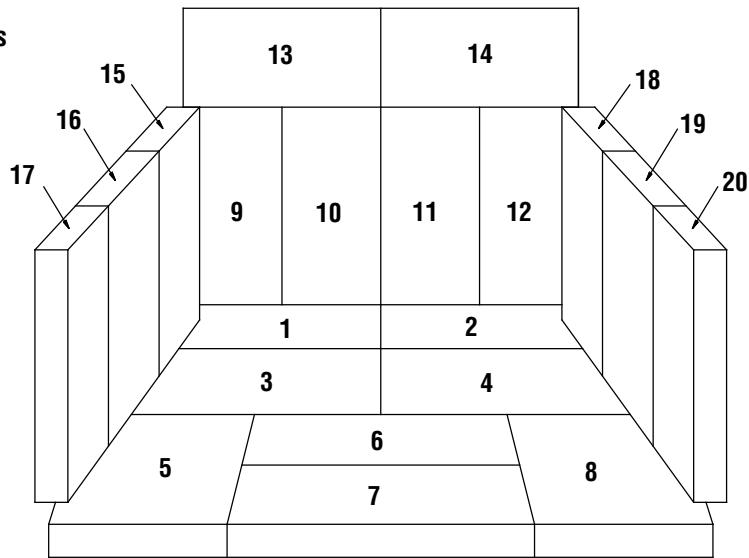

Figure 19
1. Install brick #1-20 in the numbered sequence shown in **Figure 19**.